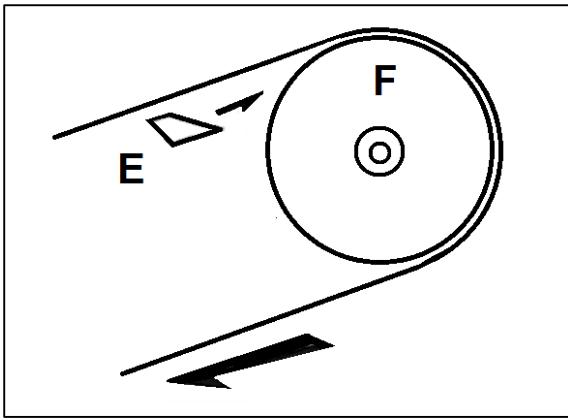

Figure 8-7: Blade Tracking Check
- Use a strip of scrap paper (E, Fig 8-7) and slide it between the blade and the flywheel (F).